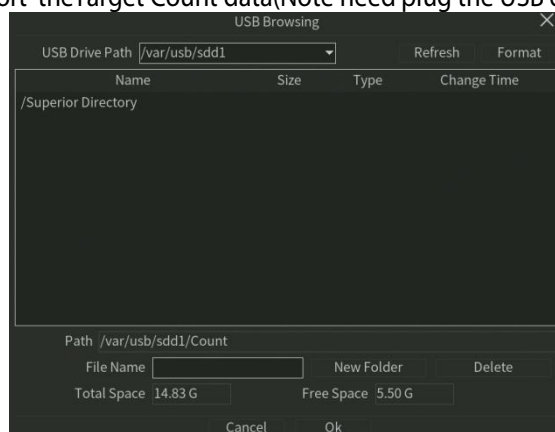

Figure 7.27 Target Count Statistics
7. Click **Export** button can export theTarget Count data(Note need plug the USB disk),as shown in figure 7.27 and 7.28.